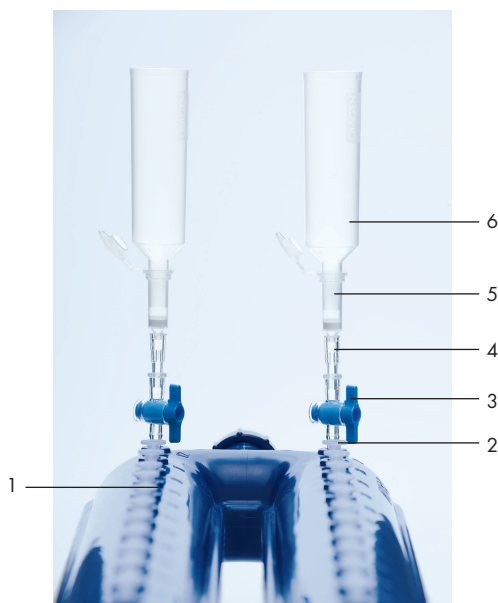

Figure 3. Setting up the QIAvac 24 Plus with QIAamp Mini columns using VacValves, VacConnectors, and Tube Extenders.
2. **Insert a VacValve (optional) into each luer slot of the QIAvac 24 Plus that is to be used (see Figure 3).** Close unused luer slots with luer plugs or close the inserted VacValve.
4. **Place the QIAamp Mini columns into the VacConnectors on the manifold (see Figure 3).**
5. **Insert a tube extender (20 ml) into each QIAamp Mini column (see Figure 3).**